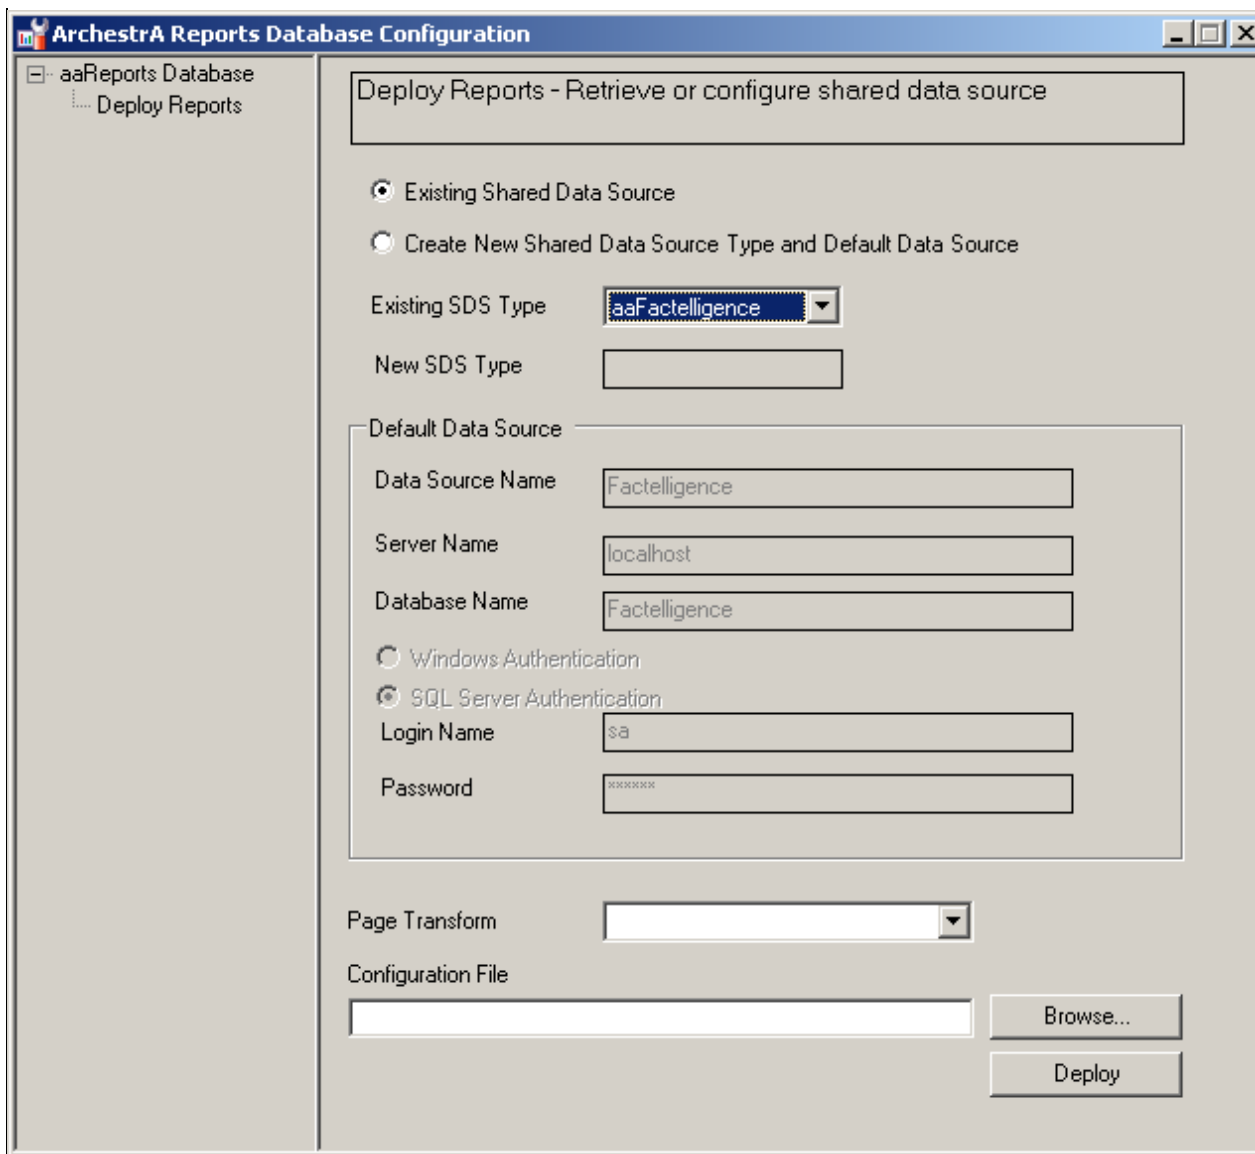

FIGURE 15: CHANGE EXISTING SDS TYPE TO AAFACTELLIGENCE
8. In the **ArchestrA Reports Database Configuration** window, select **aaFactelligence** for the **Existing SDS Type** (Figure 15 below).